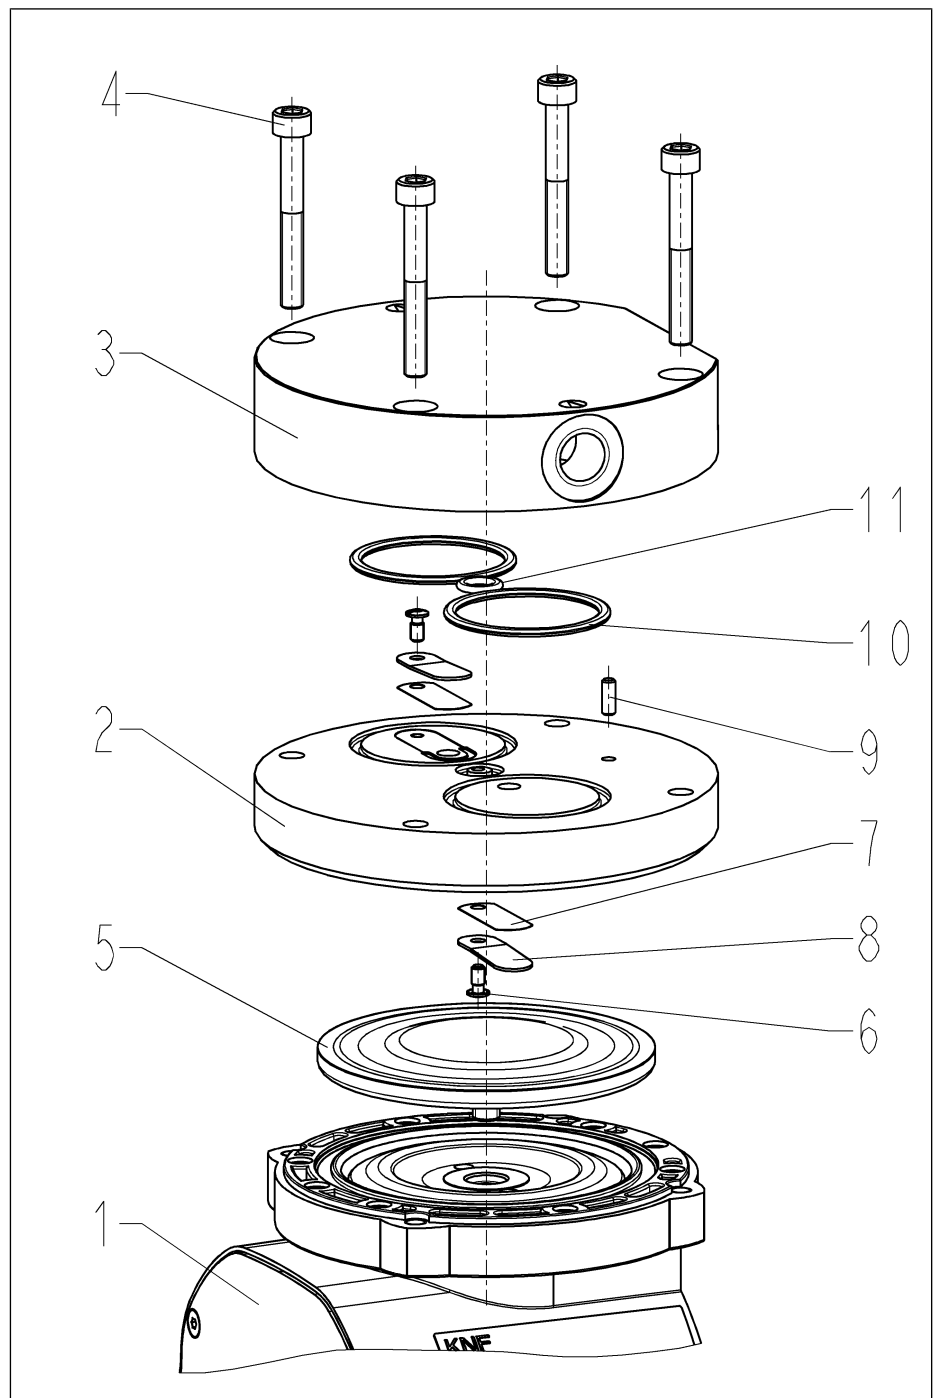

Fig.7 N922STE EX pump parts
\*\*According to Fig. 7
**i** The item numbers within the following work instruction refer to Fig. 7.